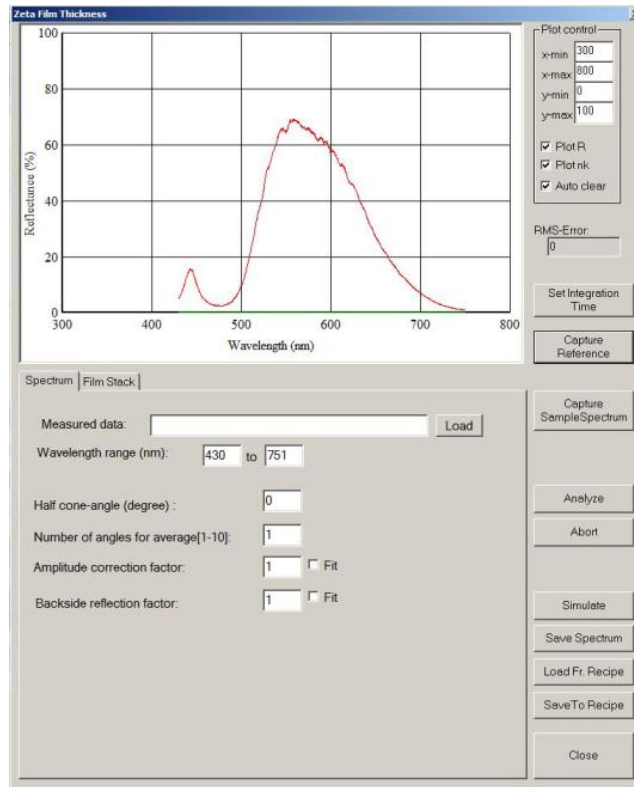

Fig. 115. Film Thickness dialog
2. Open the *Film Thickness* dialog by clicking the **Film Thickness** button in the toolbar (in the *Option* group). The dialog is shown in Fig. 115. The *Scan Dialog* also remains open during this procedure.